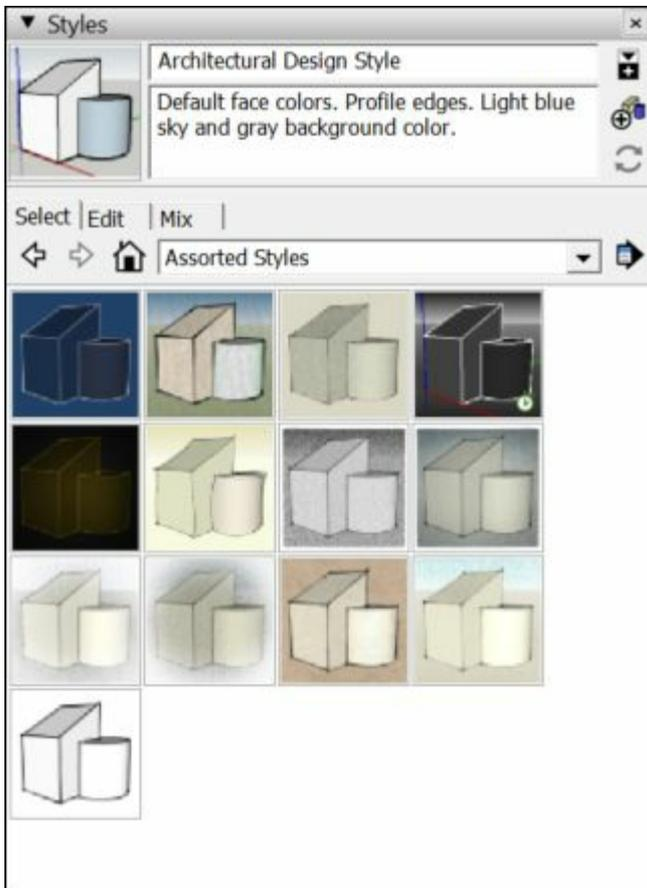

FIGURE 2-15: The Assorted Styles library is a sampler of ready-mixed SketchUp styles.
2. **From the drop-down list, choose the Assorted Styles library, as shown in Figure 2-15.**